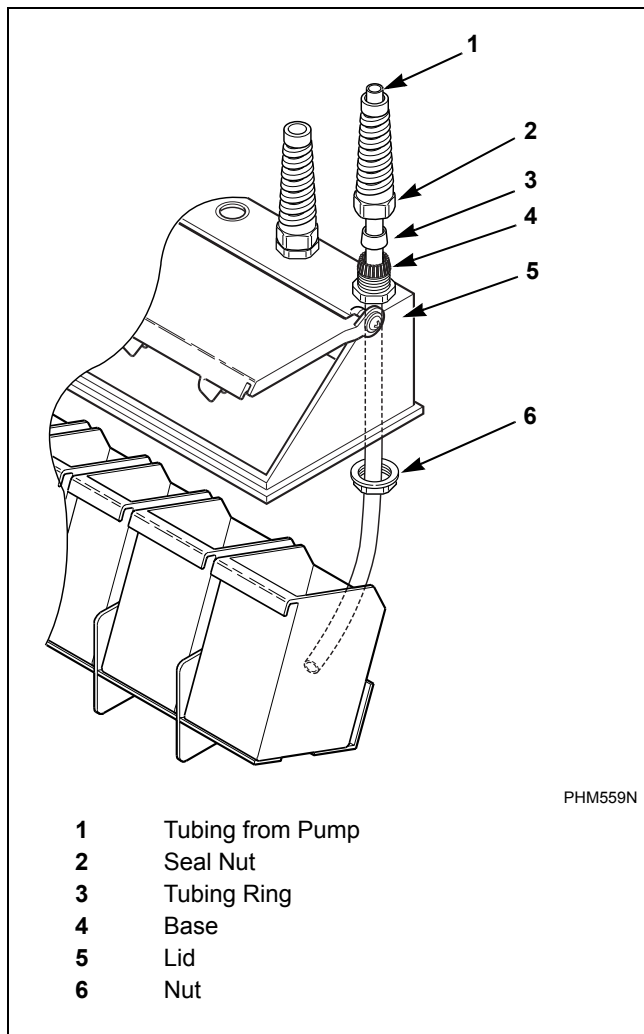

Figure 24
1. Remove knockout from supply dispenser. Refer to *Figure 24*. Plugs are assembled inside the tubing ring.